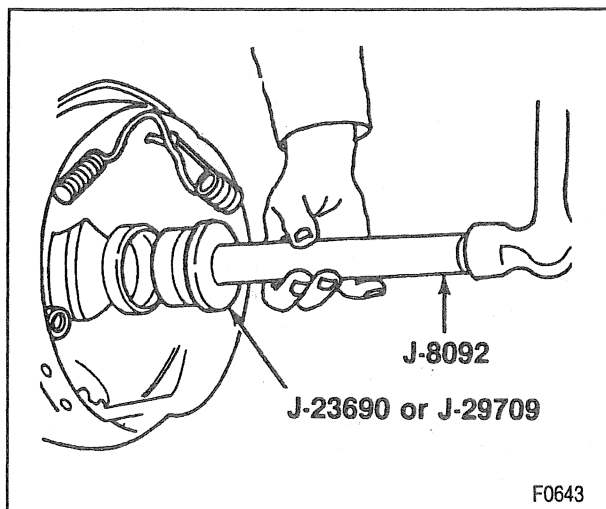

Figure 12—Installing the Wheel Bearing
- Bearing into the axle housing until the tool bottoms against the tube. Refer to figure 12.